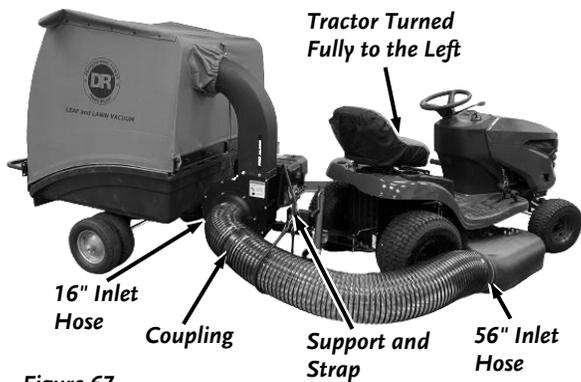

Figure 67
1. Turn the Tractor as far as it will go to the left ensuring that the Tractor is not touching any portion of the Leaf Vacuum (**Figure 67**).
**Note:** The Tractor **must** be turned fully to the left (**Figure 67**).